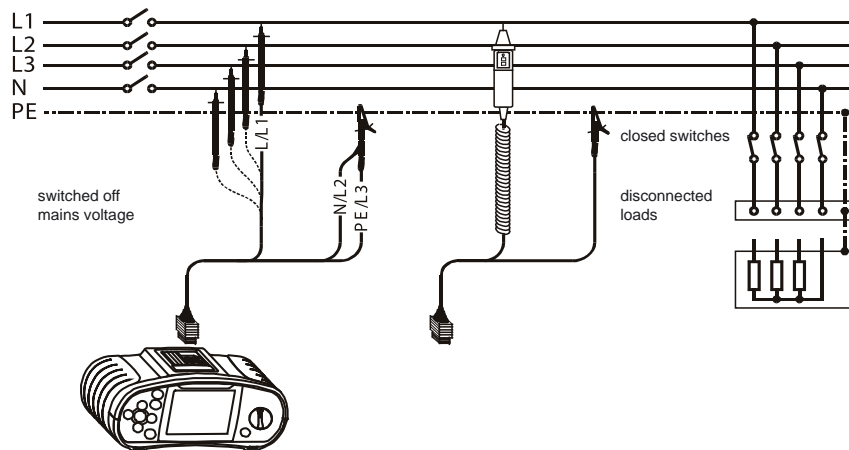

Fig. 5.2: Connection of universal test cable and tip commander
Step 3 Connect test cable to the item under test. Follow the connection diagram shown in figure 5.2 to perform insulation resistance measurement. Use the **Help** function if necessary.